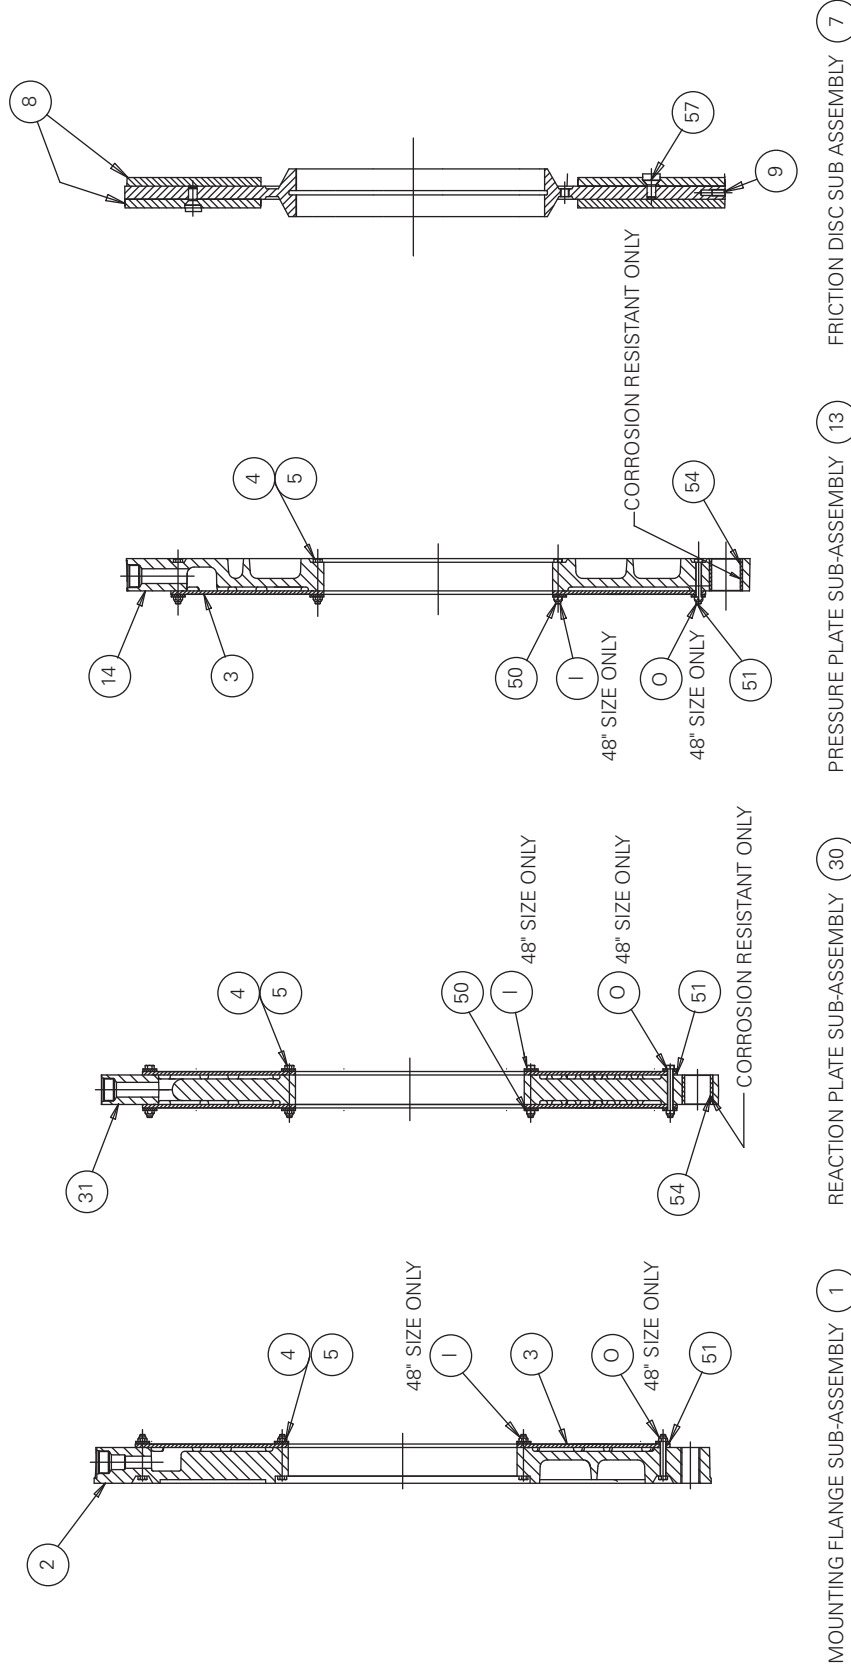

Figure 22
6.3.1 Parts Breakdown of WCB2 Standard Mounting Flange Sub-assemblies (Item 1). Reference: Figure 22.
6.3.2 Parts Breakdown of WCB2 Standard Pressure Plate Sub-assemblies (Item 13). Reference: Figure 22.
6.3.3 Parts Breakdown of WCB2 Standard Reaction Plate Sub-assemblies (Item 30). Reference: Figure 22.
6.3.4 Parts Breakdown of WCB2 Standard Friction Disc Sub-assemblies (Item 7). Reference: Figure 22.
6.3.5 Parts Breakdown of WCB2 Corrosion Resistant Mounting Flange Sub-assemblies (Item 1). Reference: Figure 22.
6.3.6 Parts Breakdown of WCB2 Corrosion Resistant Pressure Plate Sub-assemblies (Item 13). Reference: Figure 22.
6.3.7 Parts Breakdown of WCB2 Corrosion Resistant Reaction Plate Sub-assemblies (Item 30). Reference: Figure 22.
6.3.8 Parts Breakdown of WCB2 Corrosion Resistant Friction Disc Sub-assemblies (Item 7). Reference: Figure 22.